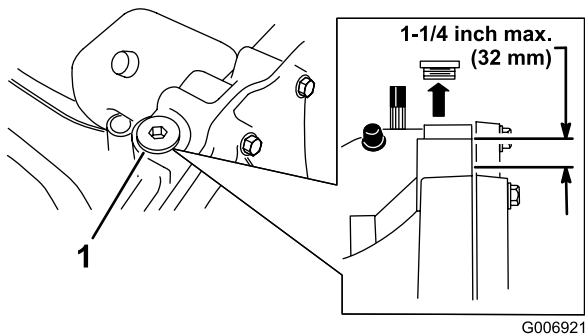

Figure 30
4. Clean around the fill plug (Figure 30) so that dirt cannot fall into the reservoir if you need to add fluid.
Note: The level should be a maximum of 1-1/4 inch (32 mm) below the top of the fill port (Figure 30). Add fluid if necessary.